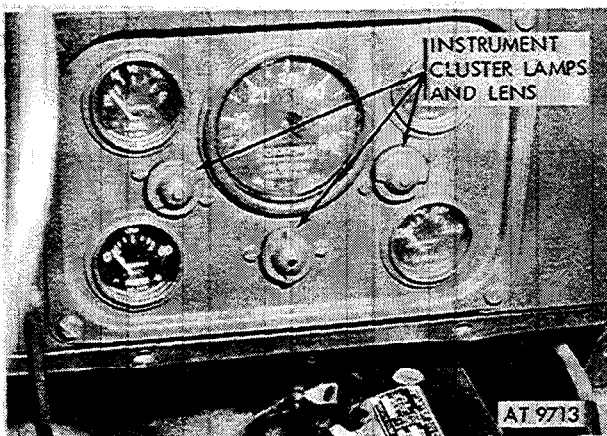
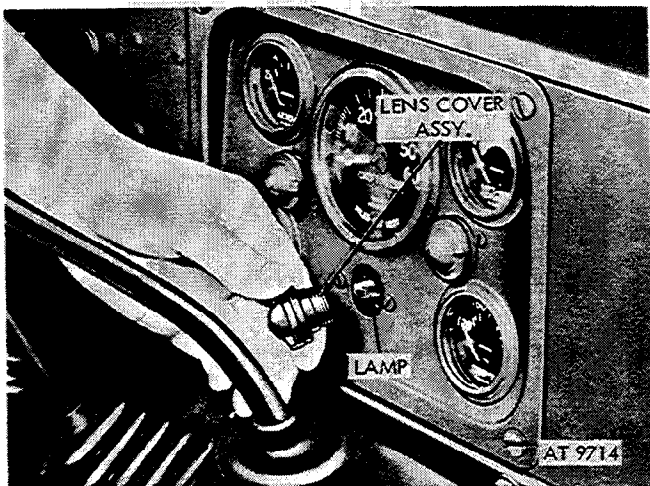

Figure 2-268. Location of instrument cluster lamps and lens.
Figure 2-269. Unscrew lens. Push lamp in and turn to left to remove.
*a. Removal.* The location of instrument cluster lamps and lens is shown in figure 2-268. Remove lamps and lenses as shown in figure 2-269.
*b. Installation.* Install instrument cluster lamps and lens as shown in figures 2-269 and 2-268.